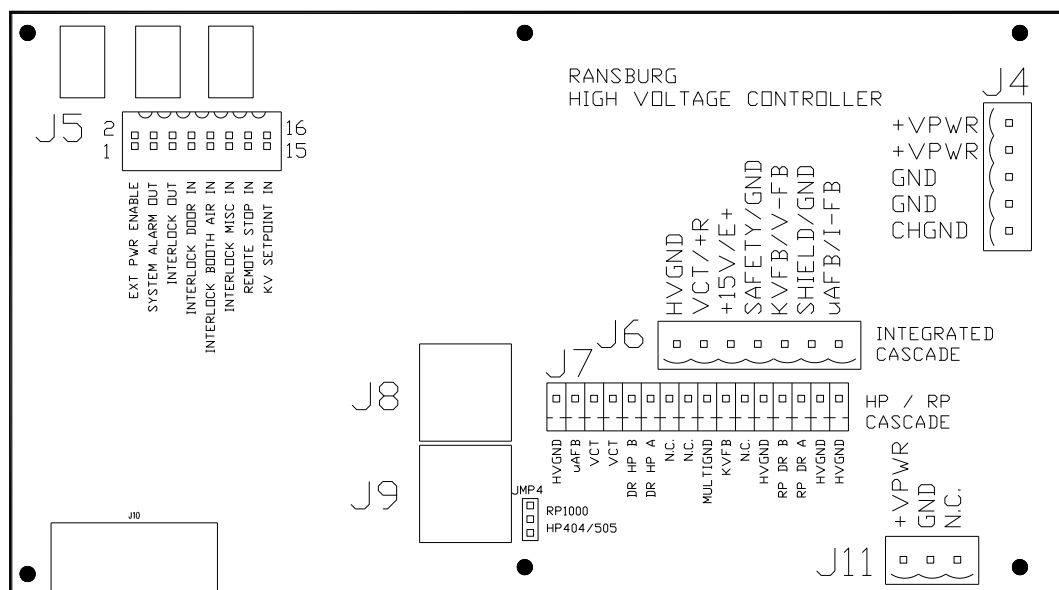

**Figure 15: Cabinet Top View**
2. Using the supplied cabinet key, unlock and open top panel of the controller cabinet (see Figure 15).